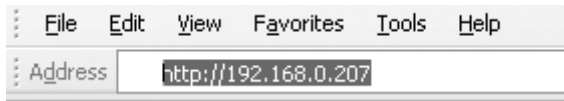

Figure 7-8: Address bar where to enter newly assigned IP address
2. In the address box at the top of the internet browser screen, enter the IP address just assigned during the Lantronix® DeviceInstaller program setup, as in Figure 7-8